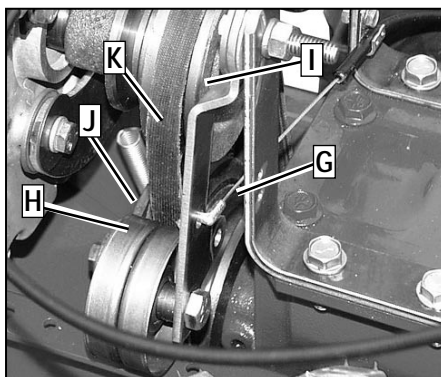

Figure 5-14: Forward clutch control assembly.
The forward clutch belt (K, Figure 5-14) engages the engine pulley (I) and the transmission pulley (J) when either Forward Clutch Control Lever is pulled up against the handlebar. The lever draws the forward clutch cable (G) tight, which causes the forward clutch idler pulley (H) to apply pressure to the forward clutch belt. This causes the pulleys to turn for Forward movement.